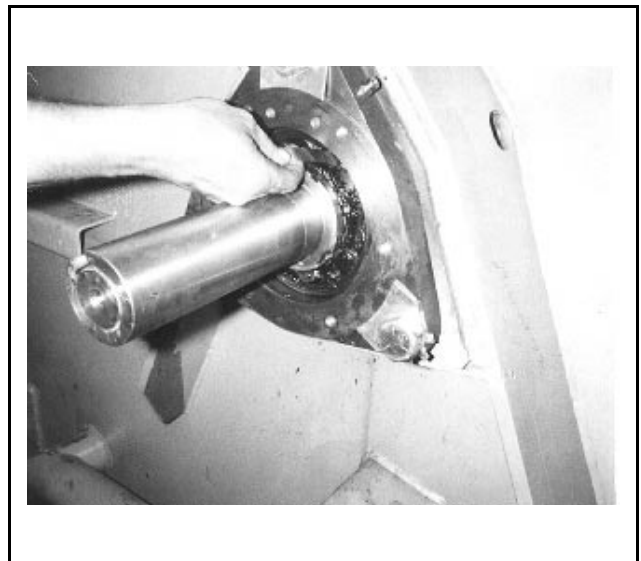

FIGURE 12 (MSSM0303AE)
2. After tightening the bearing(s) onto the tapered shaft, check the internal clearance as pictured in FIGURE 12, by working a feeler gauge between the outer race and a roller of the outer row then between the outer race and a roller of the inner row.